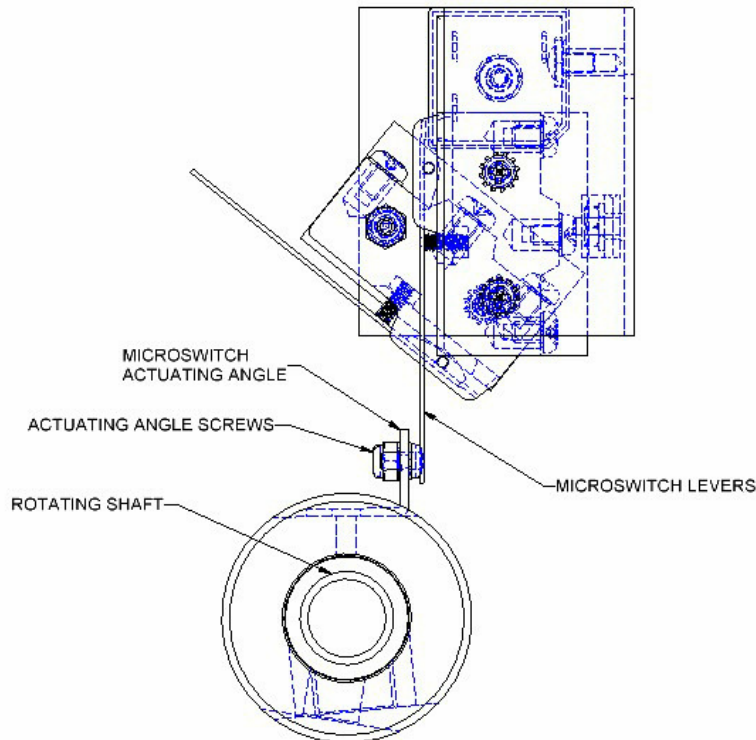

FIGURE 8
8. There are two screws in the Actuating Angle (**Figure 8**). Facing the unit, the left screw adjusts the Brake-Ready microswitch. To make the pump run longer, adjust the screw outwards in ¼ turn increments. **WARNING: It is advised that you check the rotating shaft/cam slot clearance after each adjustment by repeating this procedure.**